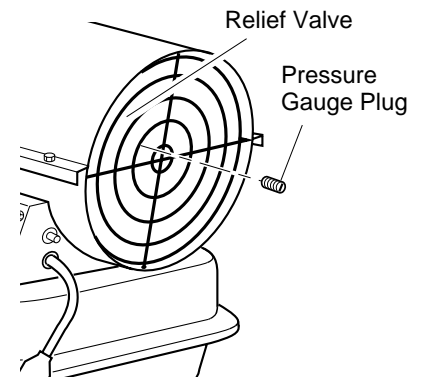

Figure 8 - Pressure Gauge Plug Removal
1. Remove pressure gauge plug from filter end cover (see Figure 8).
14. Place fine grade sandpaper (600 grit) on flat surface. Sand rotor lightly in "figure 8" motion four times (see Figure 19).